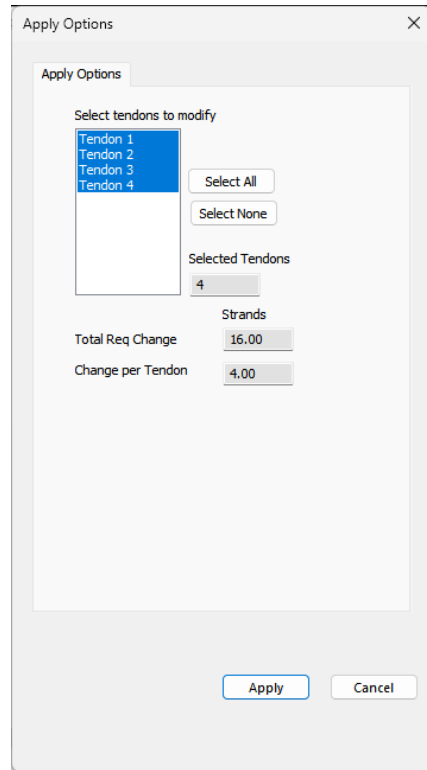

FIGURE 9-110
- Click the **Apply to Model** button. This will open the *Apply Options* window shown in **FIGURE 9-110**.